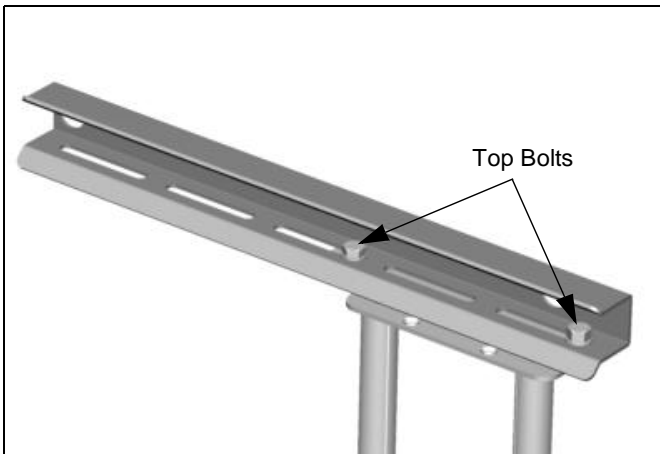

Figure 13
- Right of Center (See Figure 13).